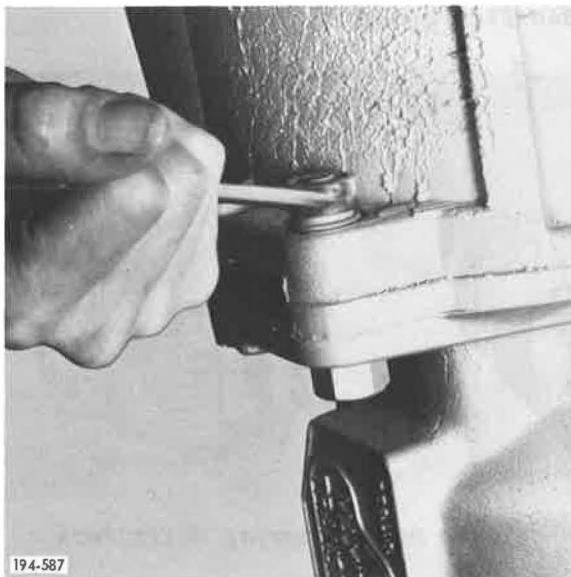

Figure 41. Loosening Dowel Bolt Nuts
41. Loosen main case to rear case dowel bolt nuts. See Figure 41.